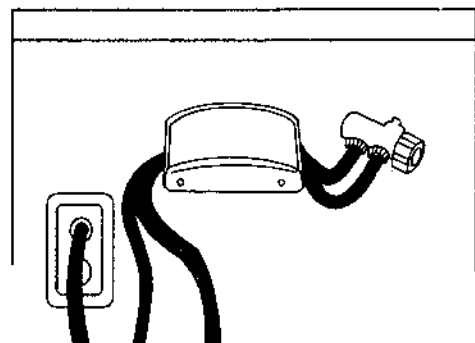

Fig. 5
8. A storage rack is provided on portable models to hang the hoses on when not in use. (Fig. 5)